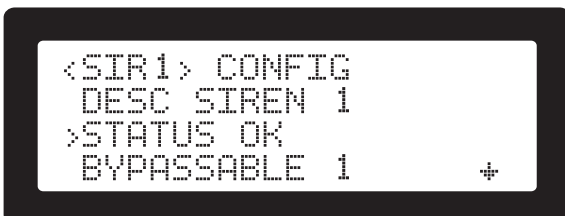

Figure 38. Bypass through STATUS screen
**When the "details screen" of any item is active (see Figure 38 sample of this screen) placing the line selector on the |STATUS| line and pressing the [BYP] key. Access level 2 or 3 pin is required. Pressing the [BYP] key again toggles the bypass state of the item on and off.**